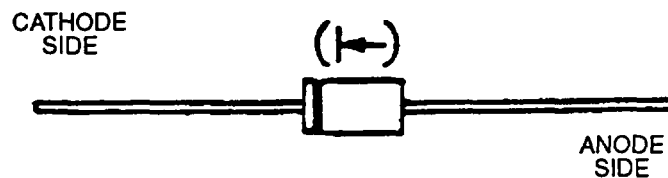

FIGURE 2-12. Diode Identification
- g. Connect positive lead of multimeter to cathode side and negative lead to anode side of each diode CR1 and CR2. Note ohms indication on multimeter for each diode. Refer to FIGURE 2-12.